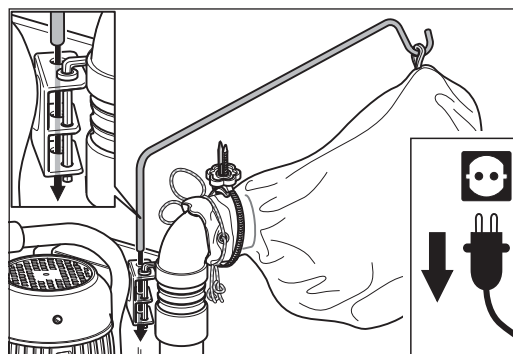

Fig. 8 Inserting the cable support into the proper bracket.
- 7 Insert the cable support into the proper bracket on the pipe bend (rear side of the machine) next to the Allen key (fig. 8).